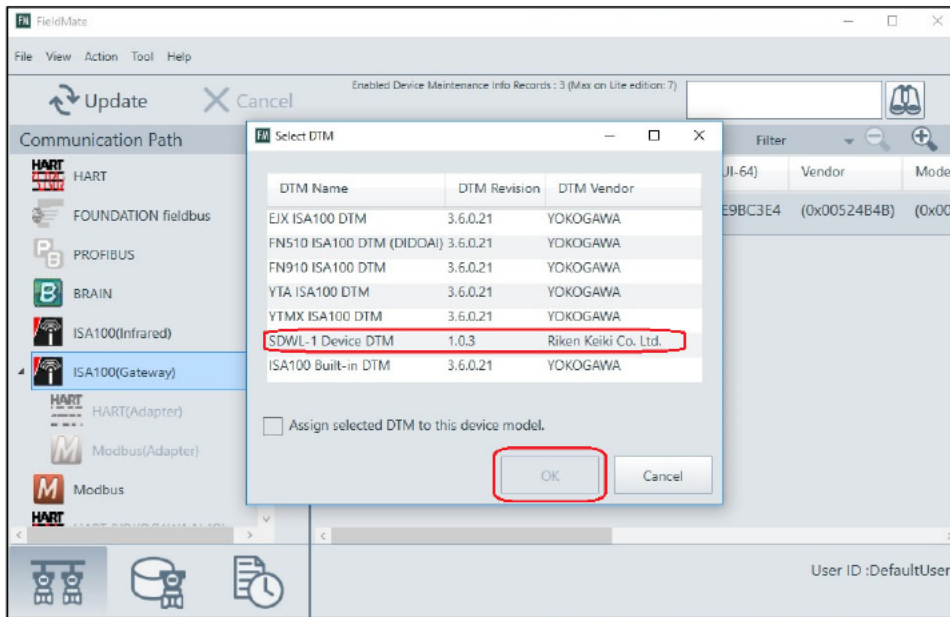

Figure 5-11 Segment viewer (DTM selection)
- ⑨ Once the device information is acquired, the list shown in Figure 5-11 below is displayed.